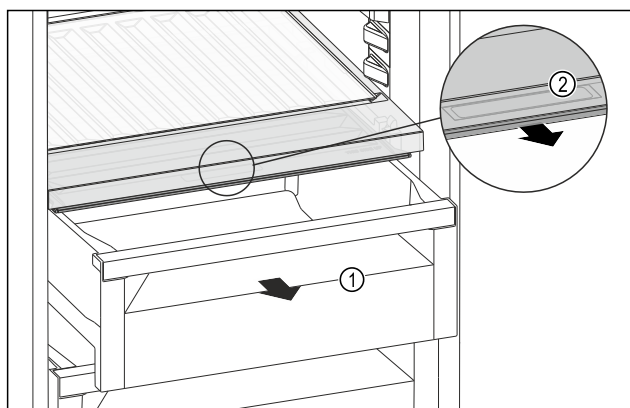

Fig. 122
- Pull out the drawer Fig. 122 (1).
- Grasp the recessed grip Fig. 122 (2) on the compartment lid and pull the compartment lid forwards at the same time.